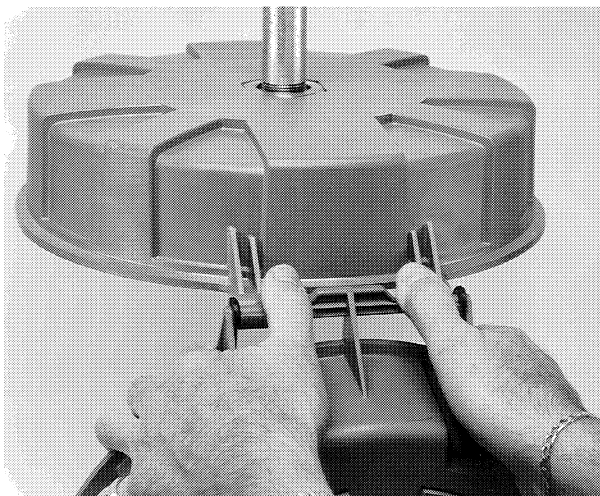

Figure 1
3. Hang ballast housing on cover module hinge hook by grasping fixture as shown, see Figure 1, using thumbs to hold spacers in place. Nest hinge pin fully into hinge hooks. Squeeze pin and hooks with thumb and fingers rather than pulling down on housing.